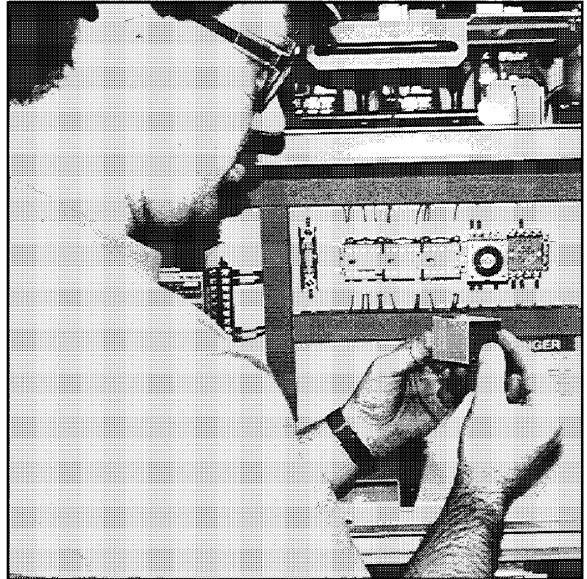

Fig. 43 Device/Mechanism Check
- ☐ All devices should be checked for damage (Fig. 43). All necessary repairs or replacements should be made.